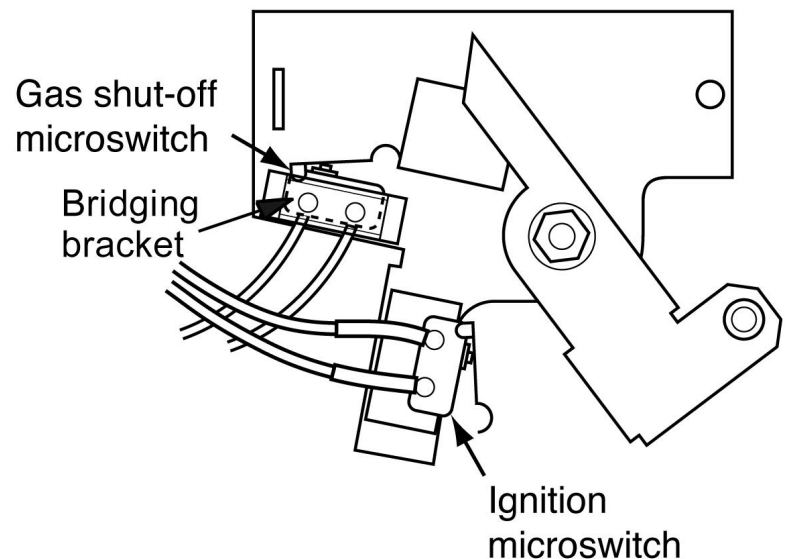

Figure 33. Microswitches
3. Disconnect the leads from the ignition microswitch (The lower of the two microswitches - See figure 33).
4. Detach the bridging bracket, microswitch assembly by removing two screws (See figure 33).